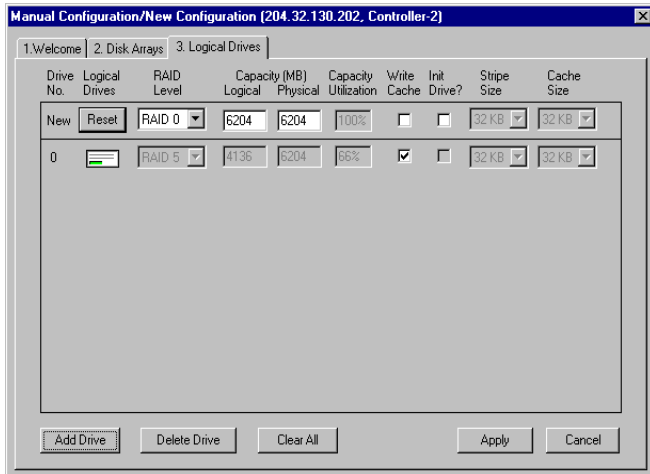

Figure 4-45. Manual Configuration –Logical Drives
5. Once you have assembled the disk array groups, click the Logical Drives tab to continue on to logical drive setup (Figure 4-45).